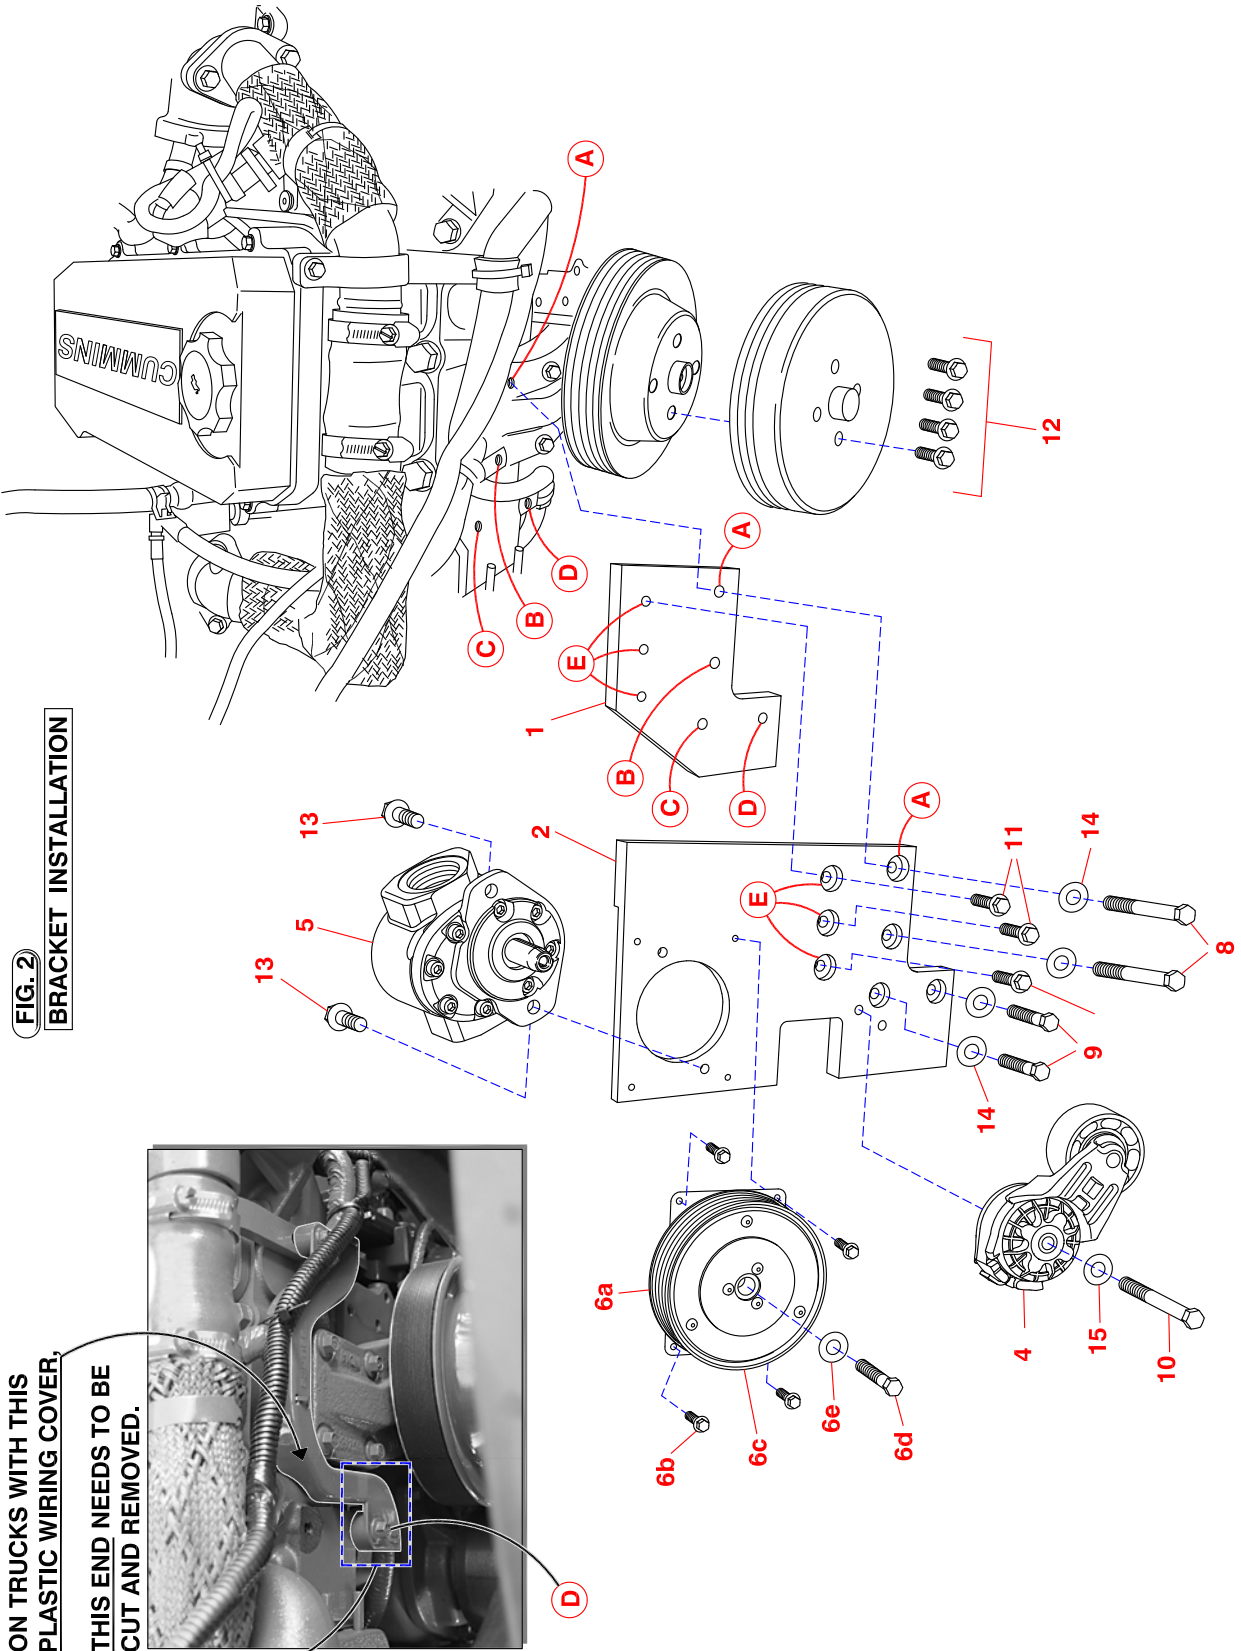

FIG. 2
5. Slide DewEze drive pulley (3) over existing fan pulley, making sure to align the pilot. Put fan onto Deweze pulley without bolting it on yet. Check to see if the air supply line for the fan clutch needs to be moved forward to clear fan in its new location. If so, remove the air line and the tube that passes through the shroud and drill a new hole in the shroud further forward and reattach the air line. Push fan forward into the shroud again to maintain room for bracket installation.
6. There are small clamps holding wiring harnesses at Locations B and D. These clamps and the bolts holding them need to be removed. On trucks with a plastic wiring cover, as shown in the photo in Fig. 2, the one end highlighted needs to be cut off to allow the bracket to set against the block. Remove the bolt at Location A. Loosen the front bolt in the passenger side radiator brace that has a wiring harness clip attached to it. Rotate the clip slightly to clear the pump.
7. The engine bracket (1) and pump bracket (2) will mount onto the two upper hole locations of the fan drive hub casting (Location A and B) with two M8 x 85 bolts (8) and two M8 flat washers (14), and two holes directly to the passenger side of these holes, (Location C and D) with two M8 x 60 bolts (9) and two M8 flat washers (14). The two brackets bolt together with three 3/8 x 1 1/4 flange head bolts (11) at Location E.
8. Install the belt tensioner (4) using the M10 x 75mm bolt (10) with M10 flat washer (15).
9. Install the pump using the 3/8 x 3/4 flange head bolts (13).
11. Slide belt (7) onto the assembly before replacing the engine fan. Reinstall the engine fan, aligning the pilot on the Deweze pulley to the fan, with four M10x50 flange head bolts (12). Now place belt on the drive pulley.